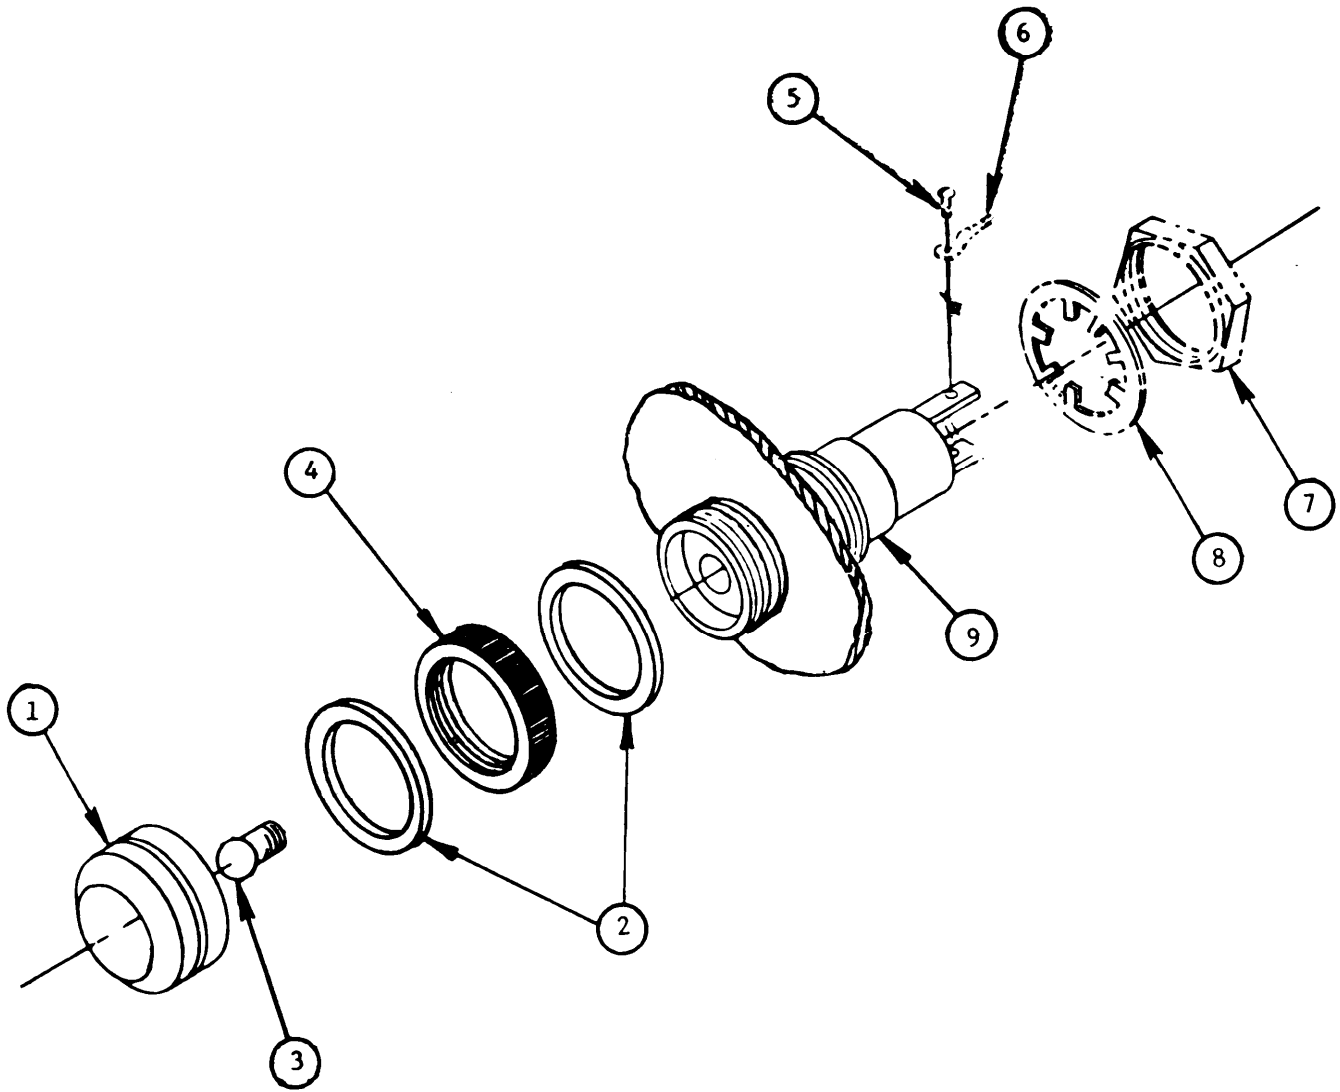

Figure 2-66. Indicator Lampholder
b. Removal. (Figure 2-66)
- (1) Replace all damaged screws, nuts, bolts, and washers.
- (2) Replace all damaged or worn electrical wires.
- (3) Replace rubber gaskets and burned-out bulbs.
- (4) Replace damaged or unserviceable indicator lampholder assemblies.
f. Installation. (Figure 2-66)